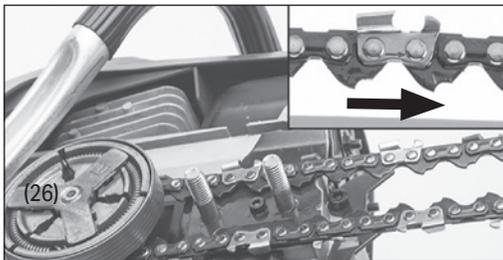

Fig.4
3. Wrap the chain around the sprocket (26). Check the markings on the chain, body and guide bar to ensure the chain is pointing in the correct direction. (Fig.4).